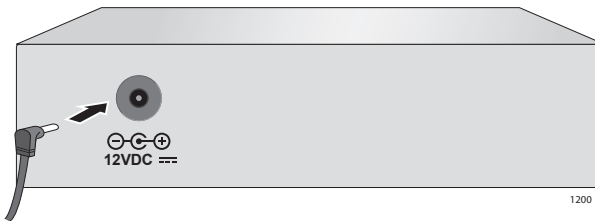

Figure 10. Connecting a 12VDC Powered Unit
1. Plug the AC/DC power adapter into an appropriate AC power outlet and insert the power plug into the DC receptacle located on the back of the unit, as shown in Figure 10.